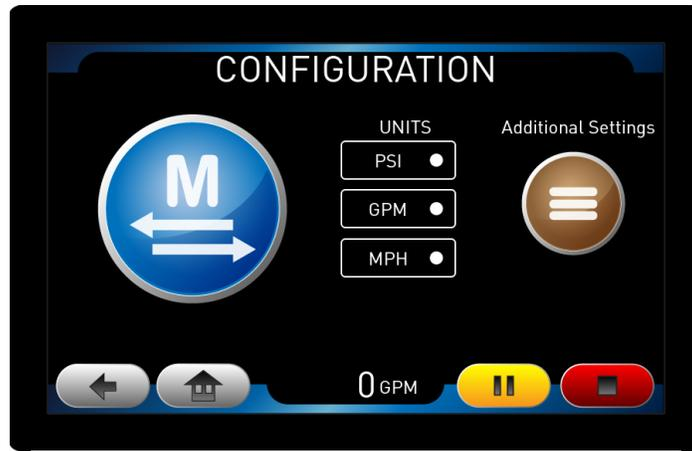

Figure 59: Main Configuration page
- From the home page, Press the “CONFIG”  menu button to get to the Main Configuration page (Figure 59).